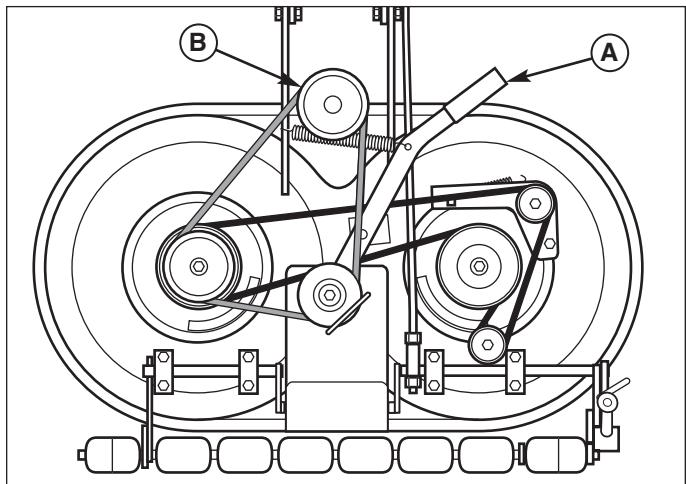

Figure 8. Removing & Installing Belt
3. Place the mower height adjuster / lift lever (A, Figure 8) in the lowered position.
5. Release belt tension with arm (A). Remove belt from PTO pulley (B, Figure 8).
7. See Figure 8. Move idler arm (A) to relieve belt tension. Install belt onto the PTO pulley (B).